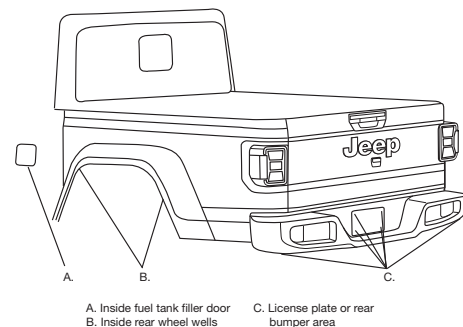

Fig. 16
4. Select a location for the Schrader valve (K), ensuring that the valve will be protected and accessible with an air line (Fig. 16). Determine and cut adequate length of air line to reach from the tee to the Schrader valve or from the air springs to the valve if using a dual-path installation.